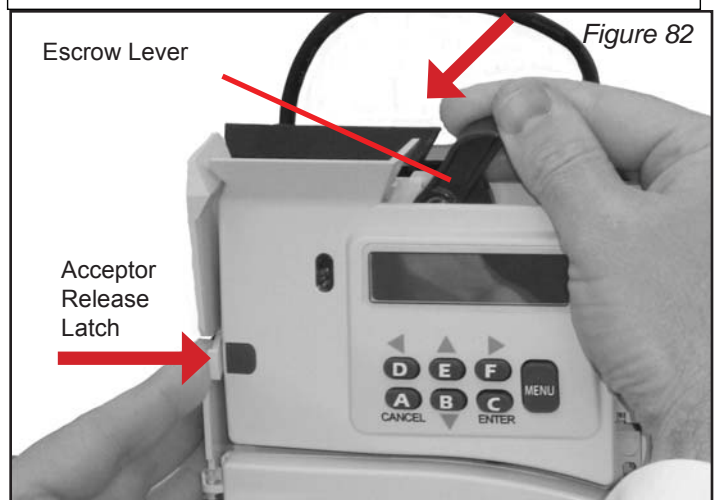

Figure 82
1. Remove the acceptor from the changer housing by pressing the acceptor latch to the right on the front of the acceptor and then pull the escrow lever towards you, away from changer housing. See Figure 82.